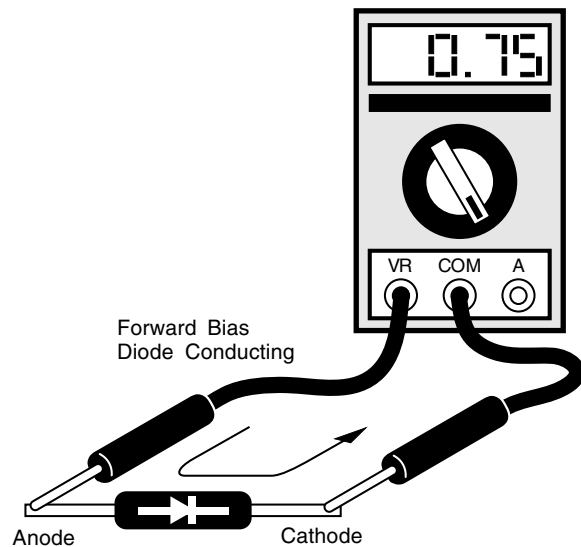

Figure 13-1: Forward bias diode test
1. To check the diode in the forward bias direction, connect the volt/ohm meter positive lead to the anode (positive, +) of the diode and the negative lead to the cathode (negative, -) of the diode (refer to Figure 13-1) . A properly functioning diode will conduct in the forward bias direction, and will indicate between 0.3 and 0.9 volts.
2. To check the diode in the reverse bias direction, reverse the meter leads (refer to Figure 13-1). A properly functioning diode will block current flow in the reverse bias direction, and depending on the meter function, will indicate an open or "OL".